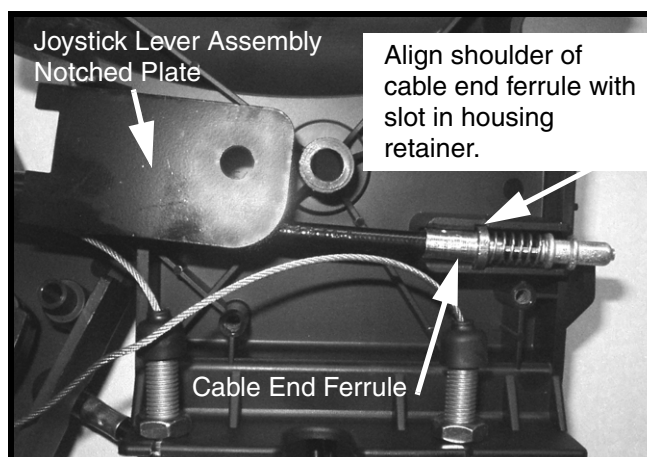

FIGURE 9
25. Refer to Figure 9. Position the 4-Way Joystick Lever Assembly with its notched plate up as shown on the inside of the new right housing half.
26. Position the cable end ferrule of the detent lock pin/spring assembly end into the new right housing half of the housing's retaining slot and press in until it snaps firmly into the retaining slot. See Figure 9.